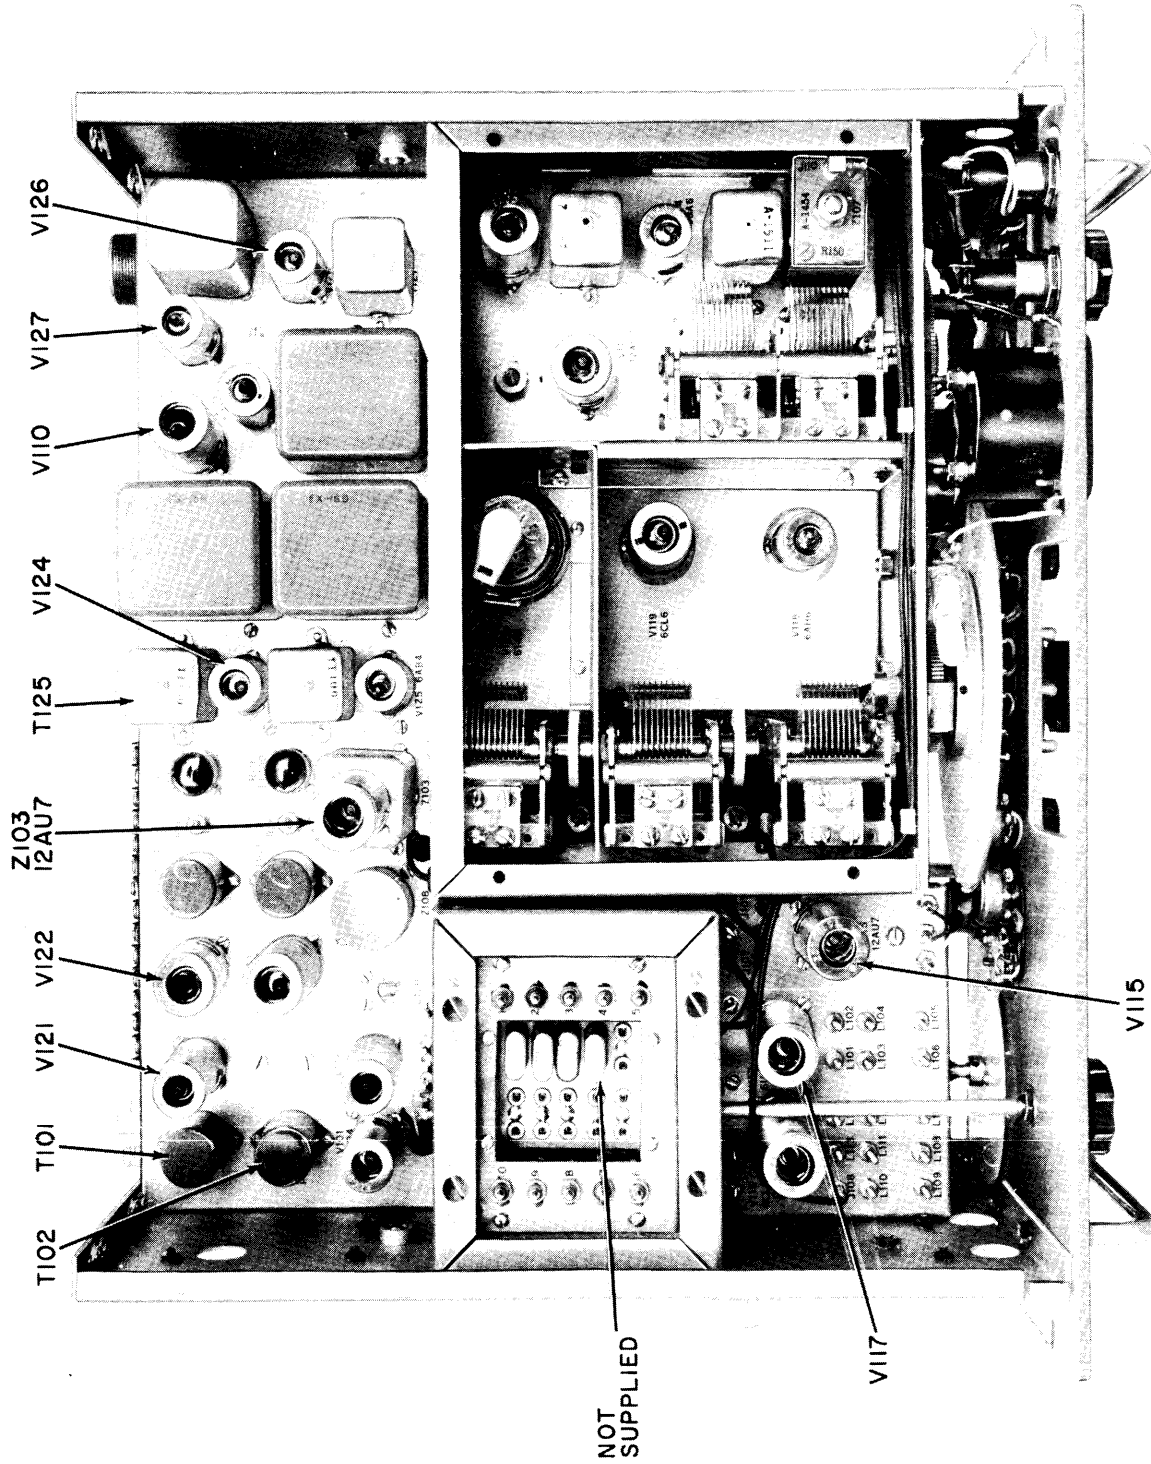

Figure 5-2. Location Diagram of Major Electronic Equipment Components, Top View
b. LOCATION DATA. - Figures 5-2 and 5-3 are photographs showing the major electronic equipment elements of the SBE-3.